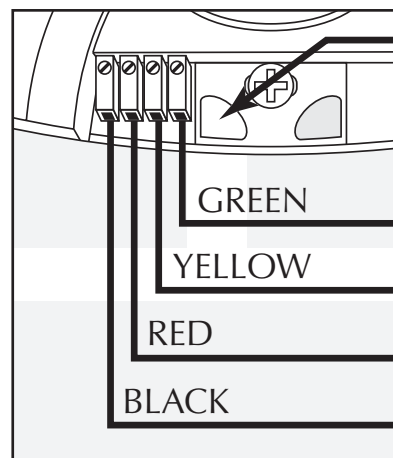

fig 3
3. Hang TDB-2 on initial mounting screw as shown in figure 3.